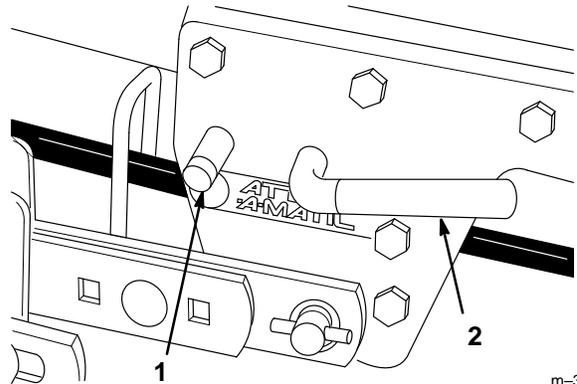

Figure 8
- Turn the lever of the Attach-A-Matic™ clockwise to lock the mower to the tractor (Fig. 8).